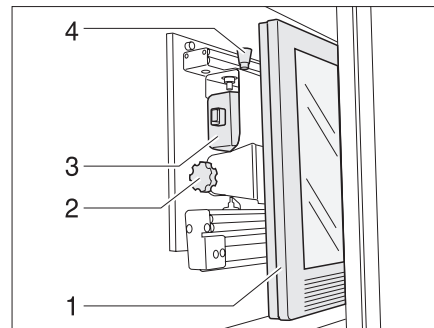

Fig. 67 TV cabinet
- Press the release knob (Fig. 67,4) and pull the holder for the flat screen forward as far as possible by the handle (Fig. 67,3).
- Pull the release button (Fig. 67,4) and swivel the flat screen (Fig. 67,1) into the desired position.
- Loosen the knurled screw (Fig. 67,2).